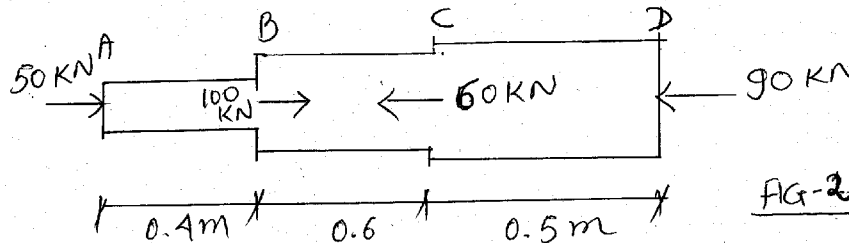

Fig. 2
- 2 Calculate stress in various parts of the rod shown in **fig. 2**. Also calculate overall deformation of the rod. Modulus of elasticity is $2 \times 10^5 \text{ N/mm}^2$, $\phi_{ab} = 20 \text{ mm}$, $\phi_{bc} = 40 \text{ mm}$, $\phi_{cd} = 50 \text{ mm}$.